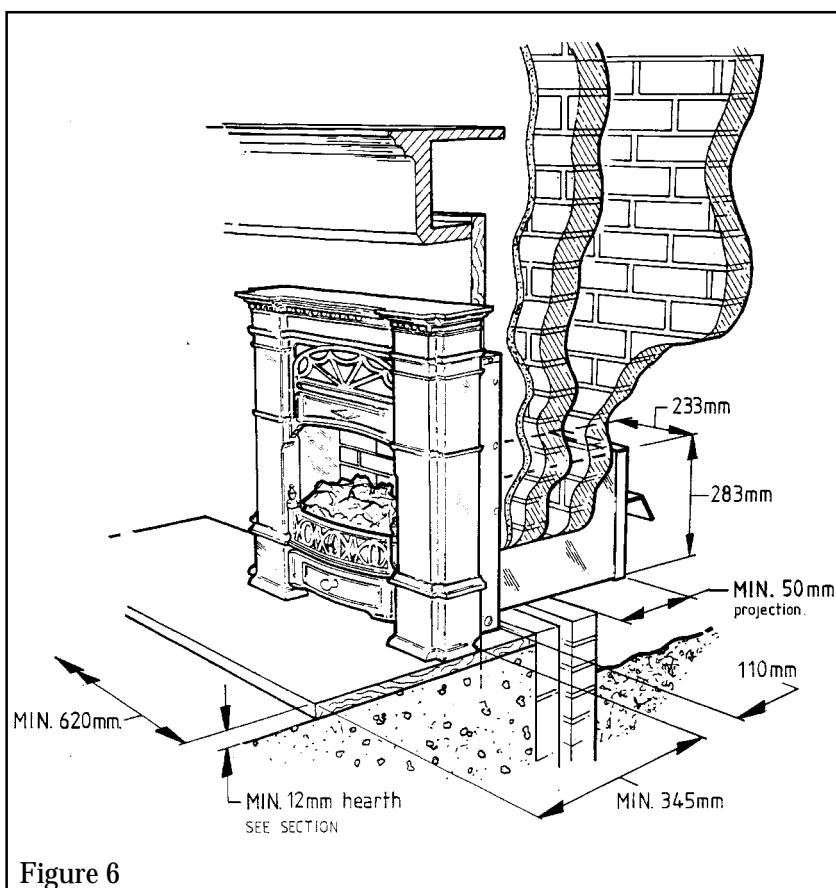

Figure 6
5.2 BRICK, STONE ETC. BUILDING. CONVECTION BOX IN FRONT OF WALL (Figure 6)
5.2.3 The non-combustible hearth must project at least 345mm in front of the convection box front flanges and be at least 620mm wide (Figure 6).
5.2.4 Make a hole through the wall to cater for the flue box (Figure 6). The bottom of the hole must be at the same level as the top surface of the hearth.